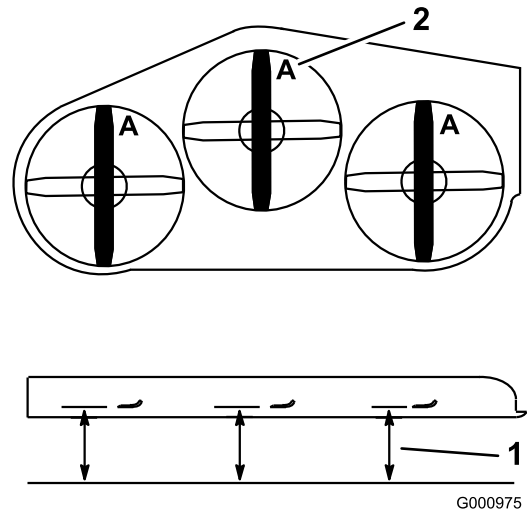

Figure 80
4. Measure from a level surface to the cutting edge, position A, of the blades (Figure 80).